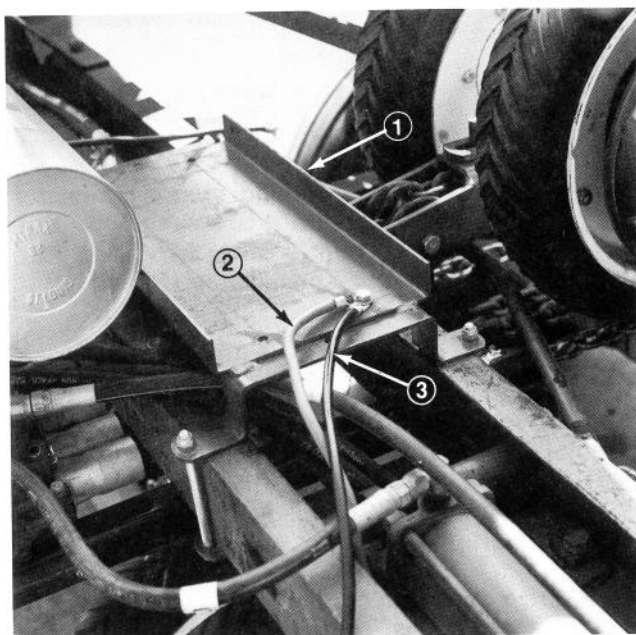

Figure 1
1. Position power pack support on center of #6 and #7 cross channels with support extension toward front (Fig. 1). Reposition any control valve hoses to avoid contact with support. Secure support to cross channels with (4) 3/8 — 16 x 5" capscrews, (8) .406 I.D. x .813 O.D. washers, (2) holddown straps, and (4) locknuts. Position washers on outside of support and holddowns.
2. Mount black battery ground wire (16½") and black power pack ground wire (30") to left rear mounting hole in power pack support with a 5/16 — 18 x 3/4" capscrew, external tooth lockwasher, and locknut (Fig. 1).